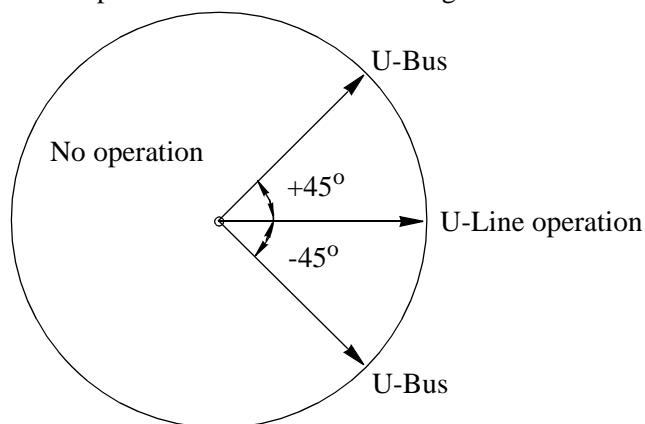

Figure 11: Test of phase difference.
- 3 The test can be repeated with other PhaseDiff values to verify that the function operates for values lower than the set ones. By changing the phase angle on U1 connected to U-bus, between $\pm 45^\circ$. The user can check that the two outputs are activated for a PhaseDiff lower than 45° . It should not operate for other values. See figure 11.